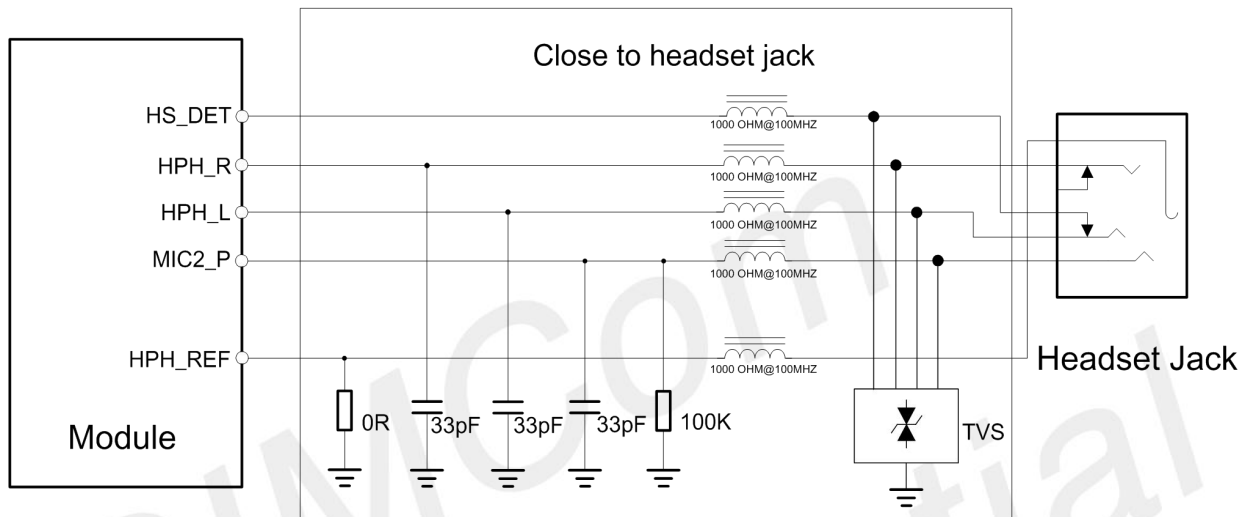

Figure 23: Headset reference circuit
A 100K Ω pull-down resistor is integrated at HPH_L pin, which could be used for mechanical insertion or removal detection through HS_DET pin. Figure 23 shows the reference circuit for normally-closed (NC) type headset jack.